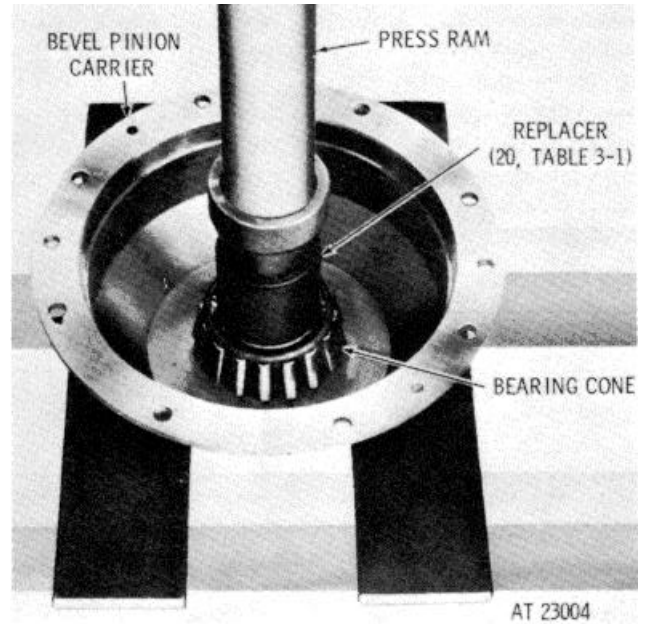

Figure 7-23. Installing bearing inner race onto hub of bevel pinion carrier
- a. If inner race of bearing assembly (35) was removed from bevel pinion carrier (32), install a new replacement. Using replacer (20, table 3-1), press the bearing inner race onto the hub of the carrier until it is firmly seated (fig. 7-23).